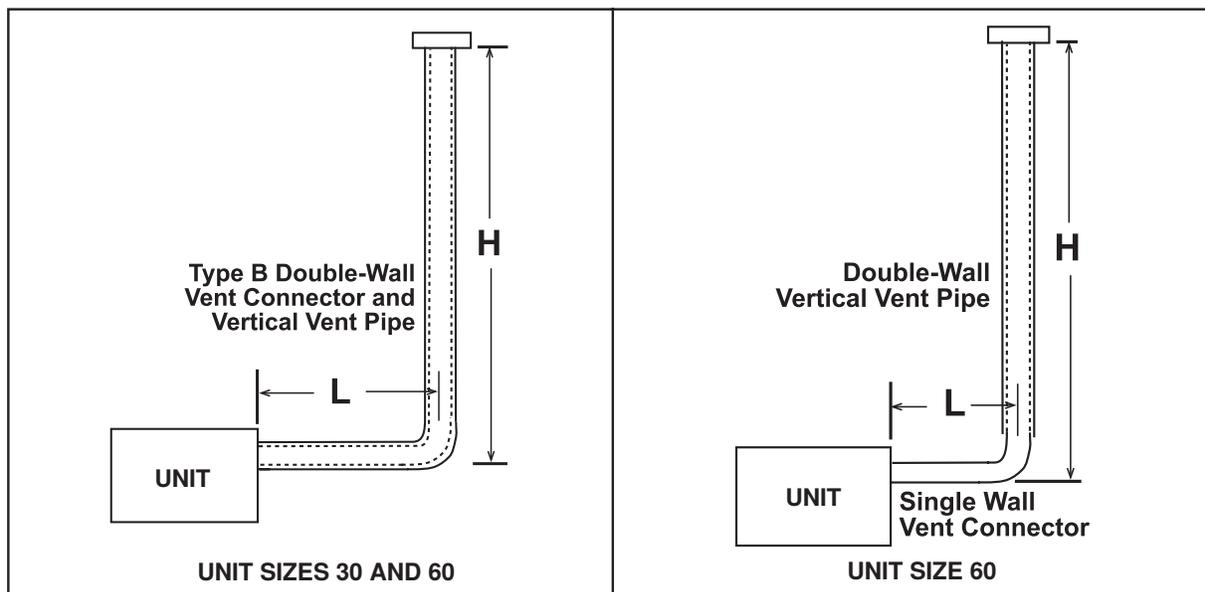

Figure 7. Typical Category I Dedicated Vent (Refer to Table 11)
1. Select vent pipe and vent connector for Category I vent (see Figure 7).
H x L (See <a href="#">Figure 7</a> ) Dimension (Feet (Meters))